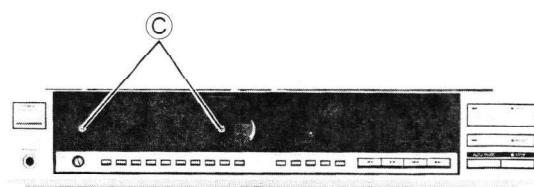

Figure 6
6. Close disc holder. (Figure 6)